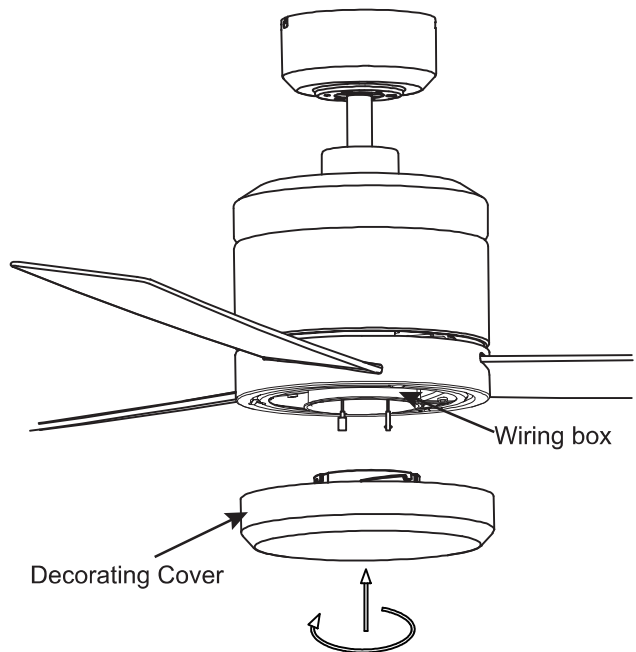

Fig.15 Counterclockwise rotation for opening
Step 1 Loosen the decorative cover counterclockwise.(Fig.15)